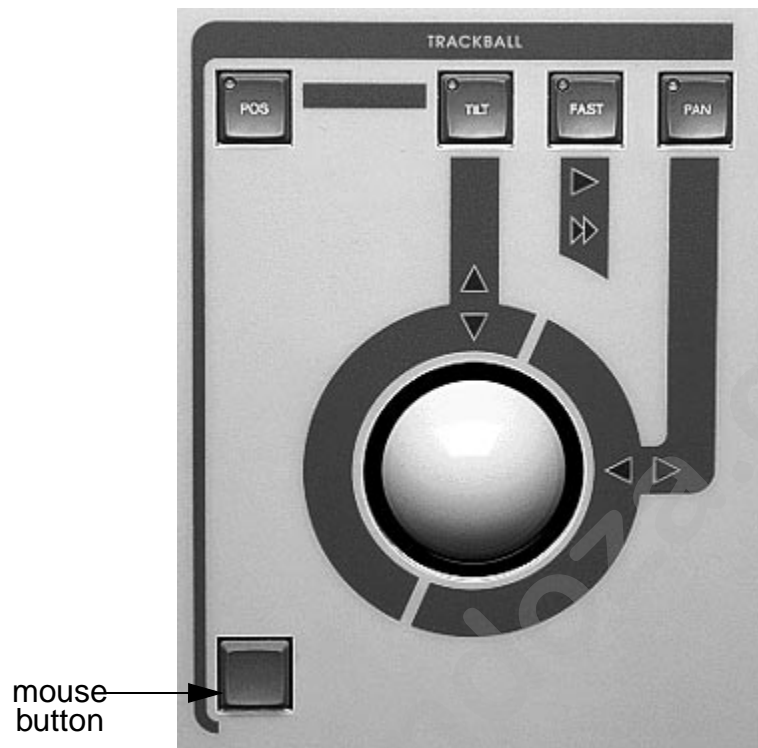

Figure 5.5. TRACKBALL Group
- Press the mouse key in POS (Position) mode to advance downward through individual fixtures. Refer to Figure 5.5.